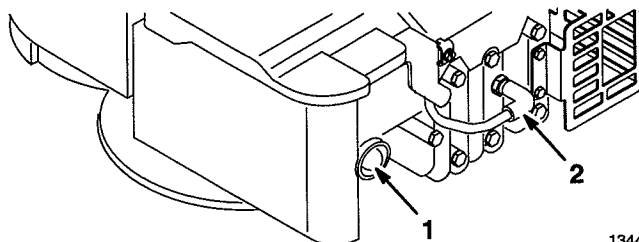

Figure 8
1. Push spark plug wire onto spark plug (Fig. 8).
2. Push primer three (3) times (Fig. 8). **Wait about two (2) seconds between each push.**
1. Stop the engine and pull wire off spark plug (Fig. 8).